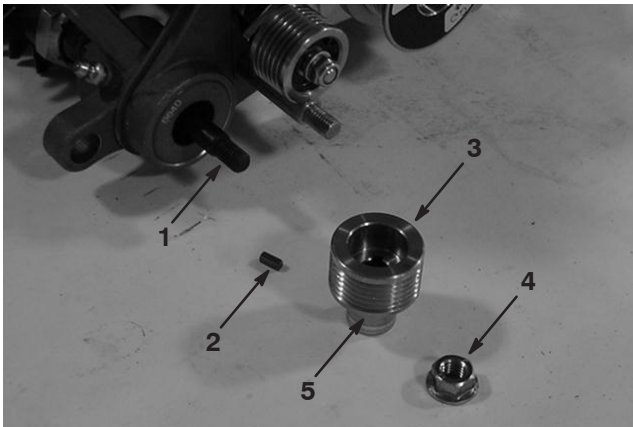

Figure 8
12. Insert a square key into keyway of groomer shaft (Fig. 8).
13. Apply grease to outer surface of drive pulley, as shown in figure 8. Do not put grease on area where the belt will ride.
14. Align slot in driven pulley with key and slide pulley onto groomer shaft (Fig. 8).
15. Secure pulley to shaft with a flange lock nut (Fig. 8).